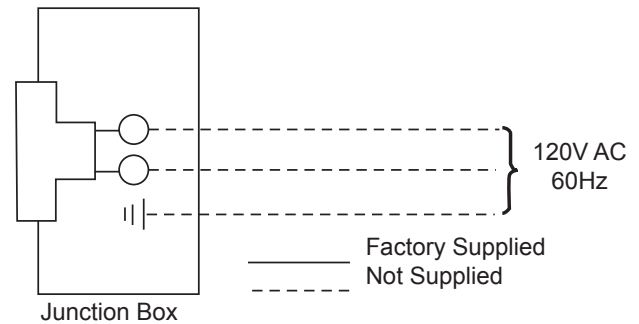

**Figure 30 -
3. The junction box cover has a factory installed "romex" style strain relief connector. After connecting the wires, route the wire leads through this connector. Refer to the wiring diagram in *Figure 30*.